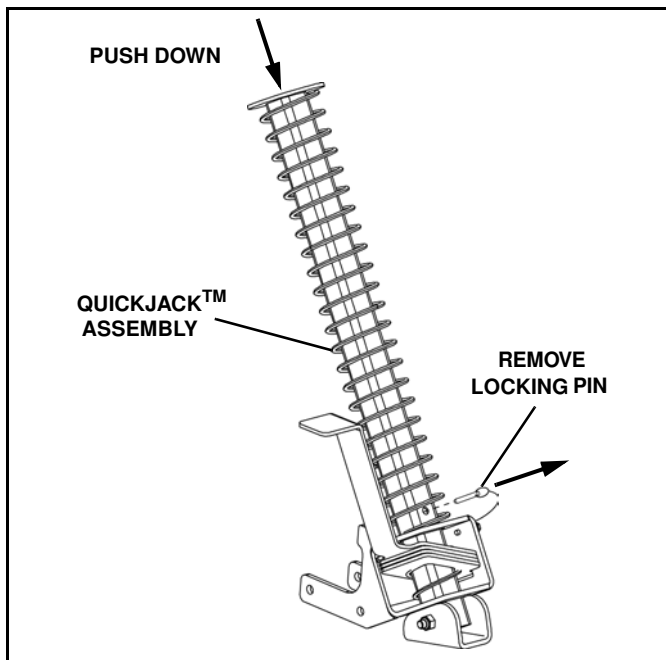

Figure 1-22
28. Remove the QuickJack™ locking pin. Raise the rear of the plow assembly and push the center tube down to fully lower the jackstand. (See Figure 1-22).